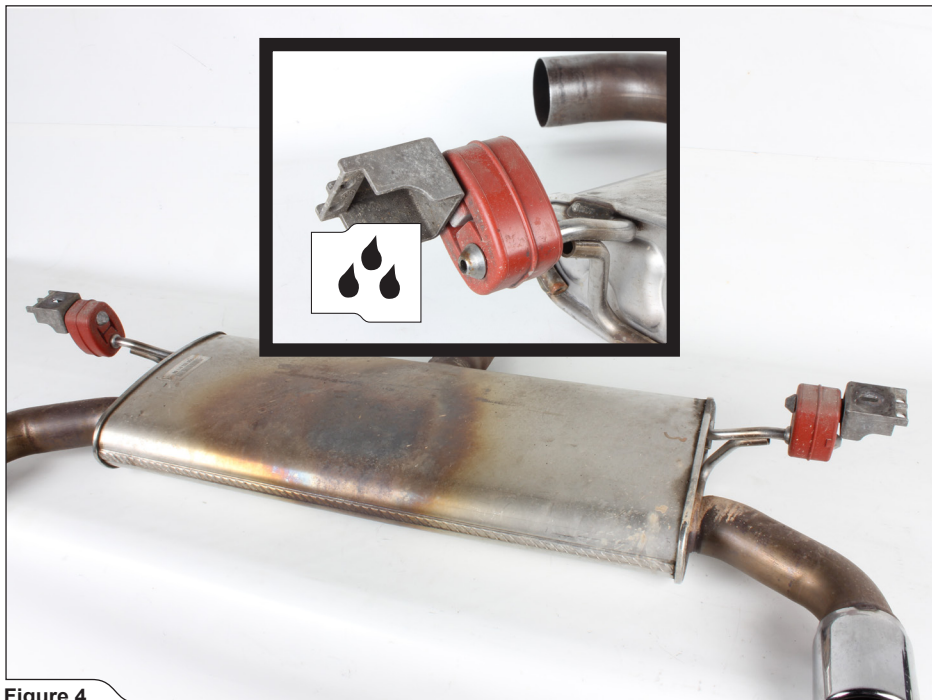

Figure 4
3. Carefully remove the rubber brackets off the muffler (**Figure 4**).